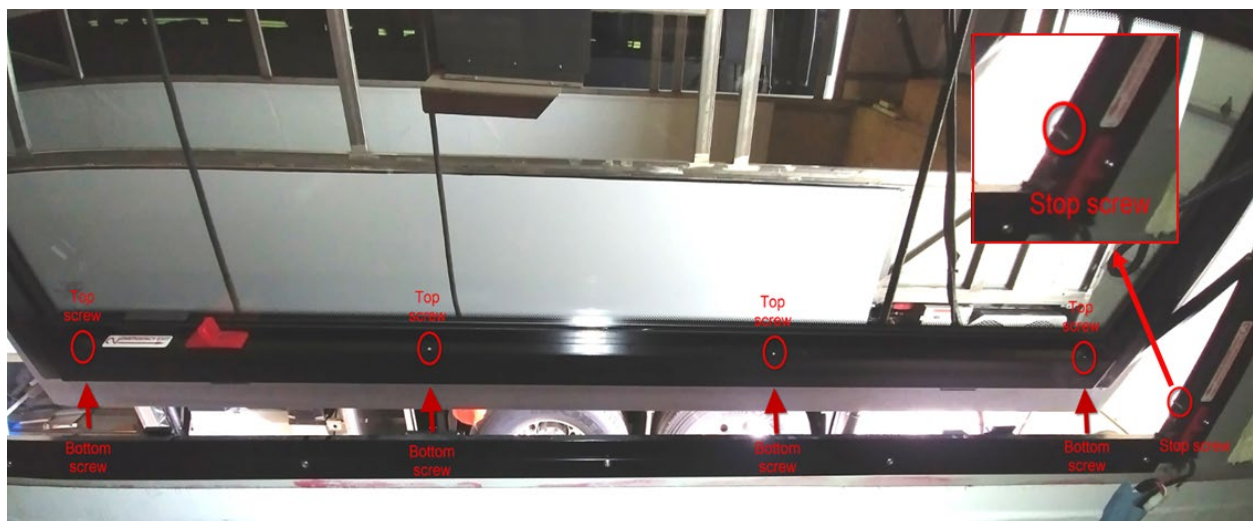

FIGURE 1: COVER (4 TOP & 4 BOTTOM) AND RAIL STOP SCREWS
- Remove the bottom window cover to access the motor (four top screws & four bottom screws - Figure 1).
- Remove the window arm stop screw located on the lower part of the vehicle window frame (arm rail on the fixed part of the window frame – Figure 1).